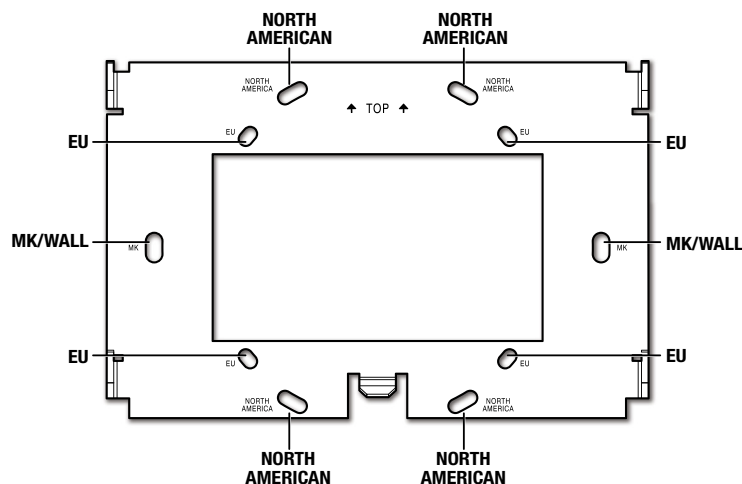

Figure 22. Mounting Plate for ZRTP Pro 725M and 1025M
NOTE: The ZRTP Pro 725M and 1025M mount to a 2-gang junction box. Both of these models use the same mounting plate (see figure 22).
2. Make sure you have the correct mounting plate for your touchpanel and fasten it to the wall box or junction box with the provided screws (❷). Use the mounting holes that are appropriate to the junction box you are using (see figure 22 on page 20).
2. Remove the gray area in the center of the template, place the template against the wall or furniture in a suitable location, and ensure that it is level. Use the template to mark the surface cut-out area that is being removed and the location of the MK slots (see figure 22 on page 20).